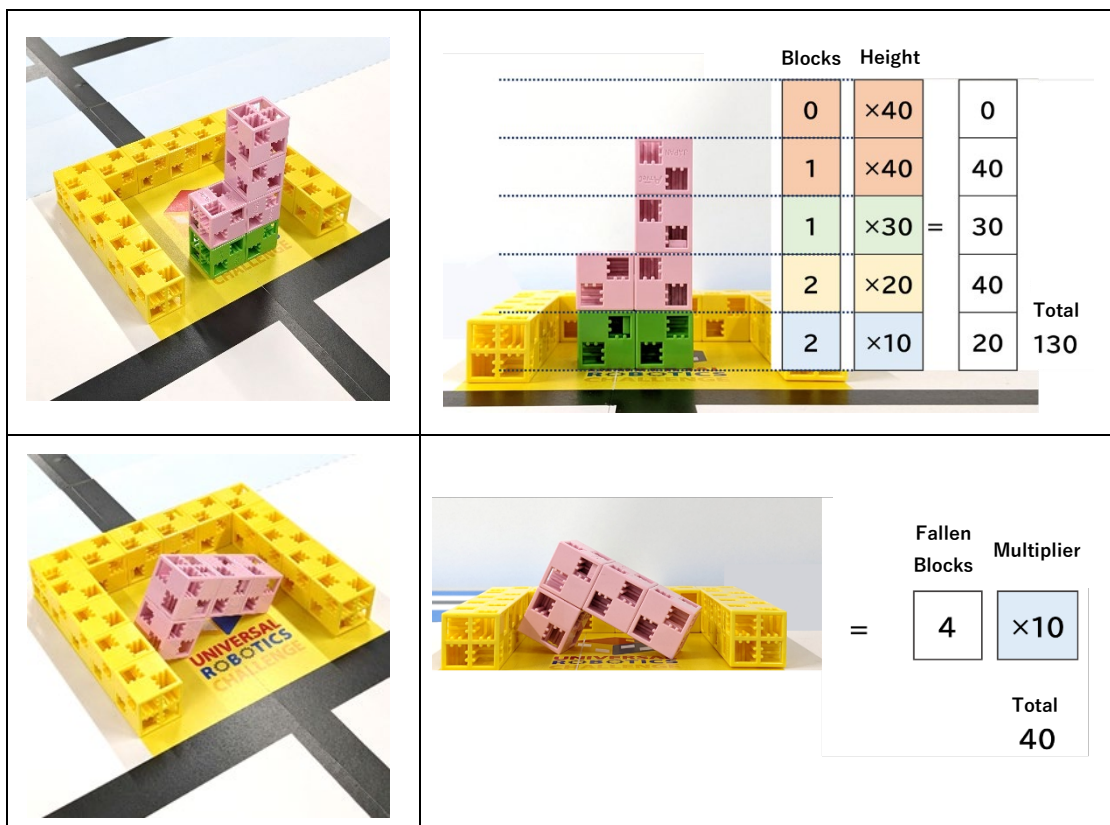

Fig 11. Scoring Packages
- As shown in Figure 11, one block height is a multiplier of 10, two block heights is 20, three is 30, and four is 40.